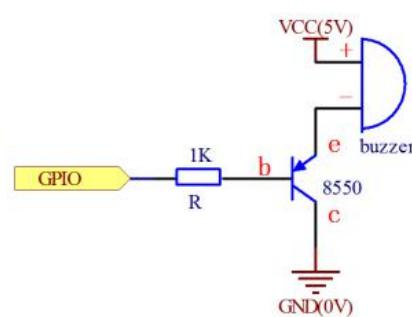

Figure2
**Figure 2:** Set the Raspberry Pi GPIO as low level, the transistor S8550 will conduct, and the buzzer will sound; set the Raspberry Pi GPIO as a high level, the transistor S8550 will cut off, then the buzzer will stop.